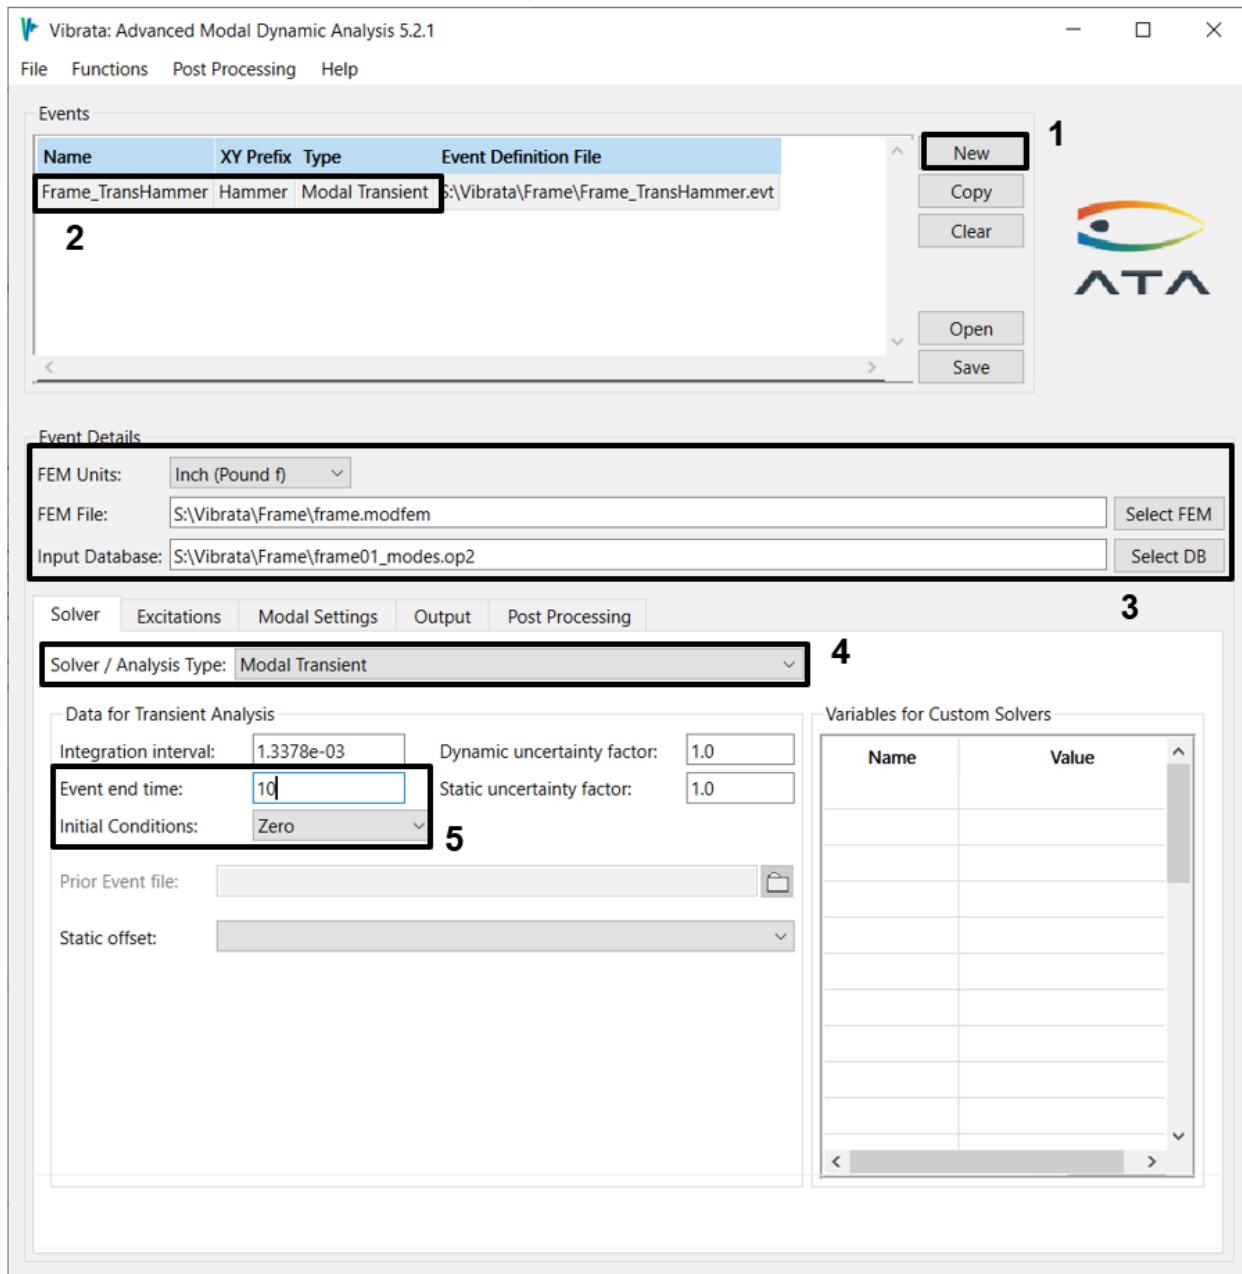

Figure 4-112. Solver setup for frame model transient analysis.
2. In the Event Manager, set up a new transient event and select the frame’s modfem file and the OP2 file “frame01_modes.op2”. Set the event end time to 10 seconds and its initial conditions to Zero, as shown in Figure 4-112. As always, be sure to assign a recognizable event name.